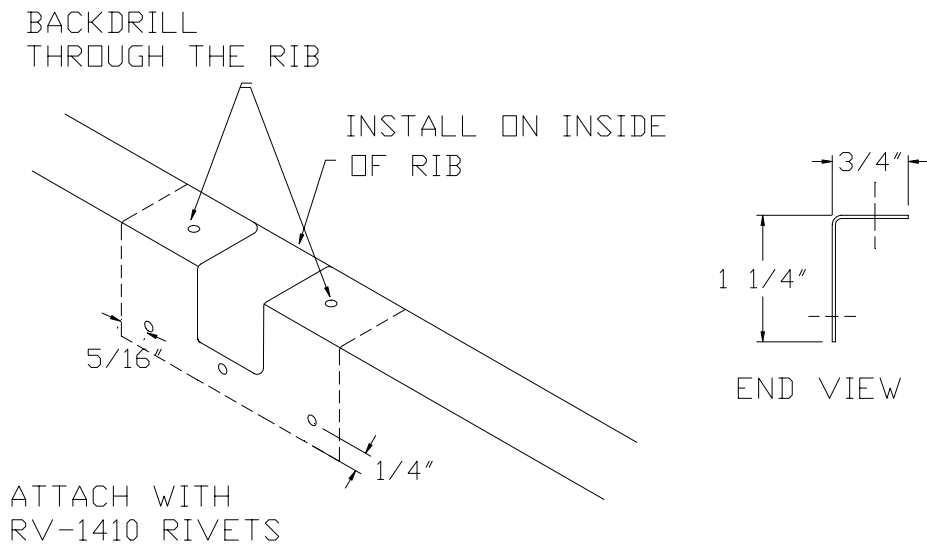

Figure 8.22.1
1) For each Stringer cut out location in the tank area of the Root Rib, bend up an angle from .032 material to close the opening. Drill but do not rivet at this time. Figure 8.22.1.